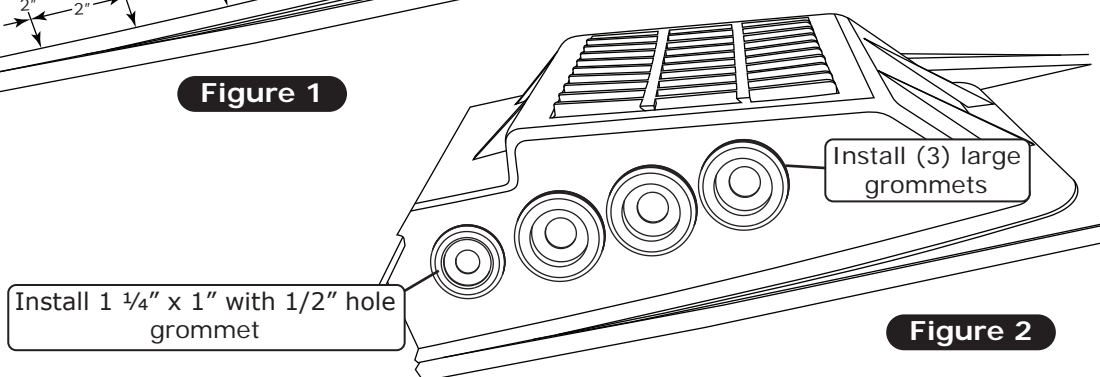

Figure 2
2. Install (3) large and (1) 1 1/4" x 1" with 1/2" hole grommets into the airbox (See Figure 2, below).